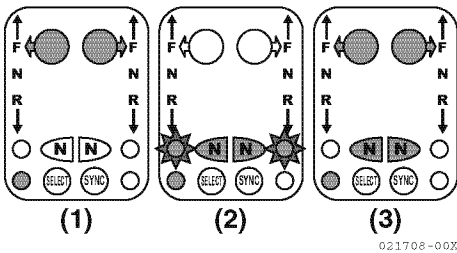

Figure 18
1. Move the engine's lever to an in-gear idle position (Forward Idle or Reverse Idle) (**Figure 18, (1)**) and press the N (NEUTRAL) button (**Figure 18, (2)**) next to this lever on the control head. The N (NEUTRAL) lamp (**Figure 18, (2)**) will flash to indicate that the Split Range Throttle is engaged.
Return the engine lever to a Gear Idle position (Forward Idle or Reverse Idle) (**Figure 18, (3)**). Press the N (NEUTRAL) button next to the lever on the control head. The N (Neutral) lamp will stop flashing, indicating that the Split Range Throttle has been disengaged.